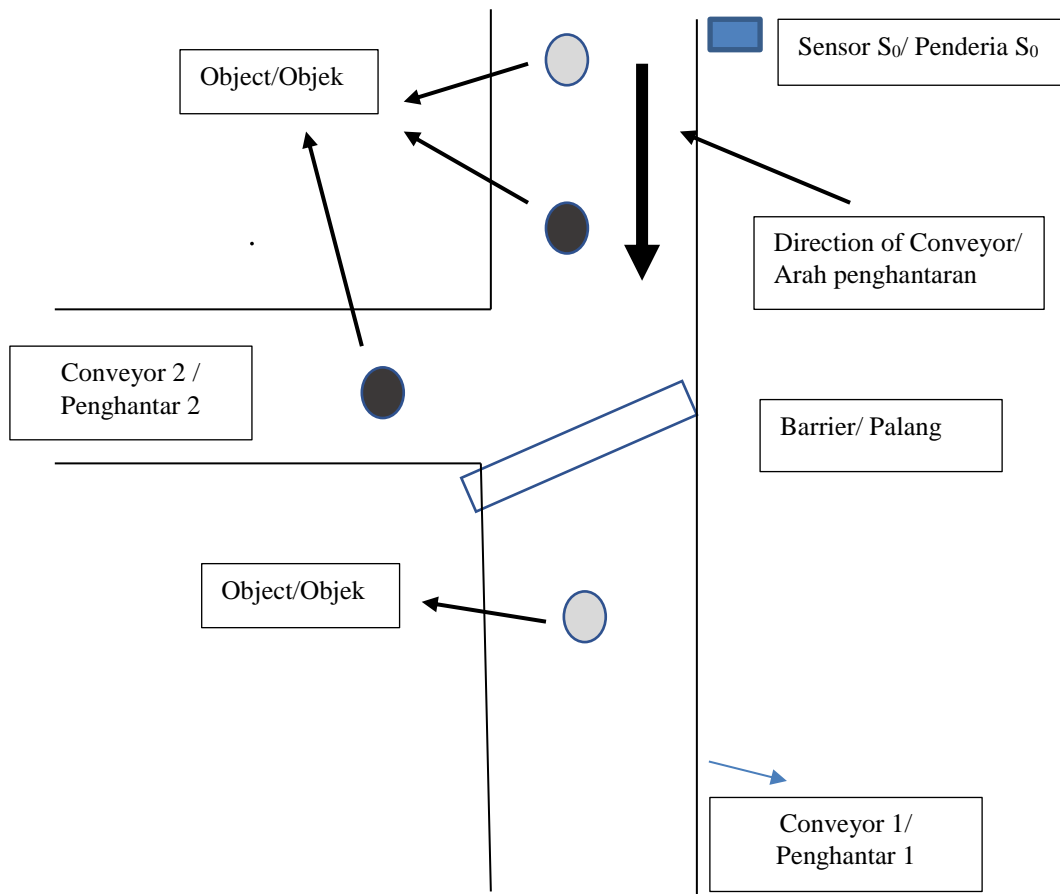

Figure 3
5. Figure 3 shows the process of product sorting process. There are two types of product box available on the conveyor. The object in darker colour is made by aluminium while object in lighter colour is made of glass. The darker object is required to be diverted to conveyor 2 by actuating the barrier which is controlled by a solenoid. The lighter products are transferred on the conveyor 1. The products are randomly placed on the conveyor. Sensor  $S_0$  is used to sense the presence of product on the conveyor.